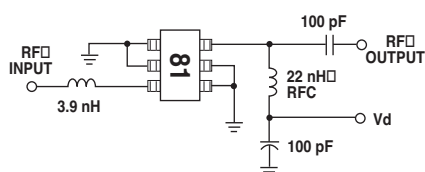
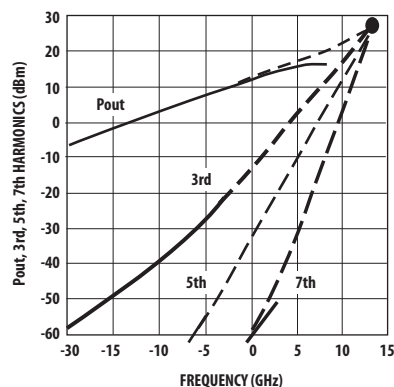

Figure 10. Test Circuit.
Figure 19. Intermodulation Products vs. Input Power.
1. Guaranteed specifications are 100% tested in the circuit in Figure 10 in the Applications Information section.
The circuit shown in Figure 10 is used for 100% RF testing of Noise Figure and Gain. The 3.9 nH inductor at the input fix-tunes the circuit to 2 GHz. The only purpose of the RFC at the output is to apply DC bias to the device under test. Tests in this circuit are used to guarantee the NF_{test} and G_{test} parameters shown in the table of Electrical Specifications.
Like other active devices, the intermodulation products of the MGA-81563 increase as the device is driven further into nonlinear operation. The 3rd, 5th, and 7th order intermodulation products of the MGA-81563 are shown in Figure 19 along with the fundamental response. This data was measured in the test circuit in Figure 10.